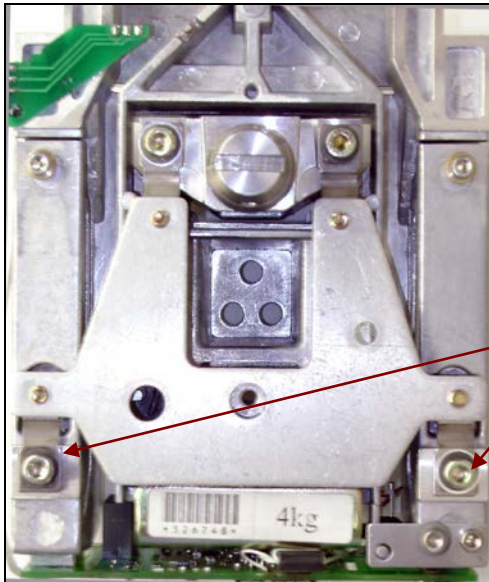

Figure 3-47. Precision Load Cell top.
2. Loosen (do not remove) the two screws shown in Figures 3-47 and 3-48 that secure the top and bottom Flexure Arms at the end closest to the Position Sensor Board.